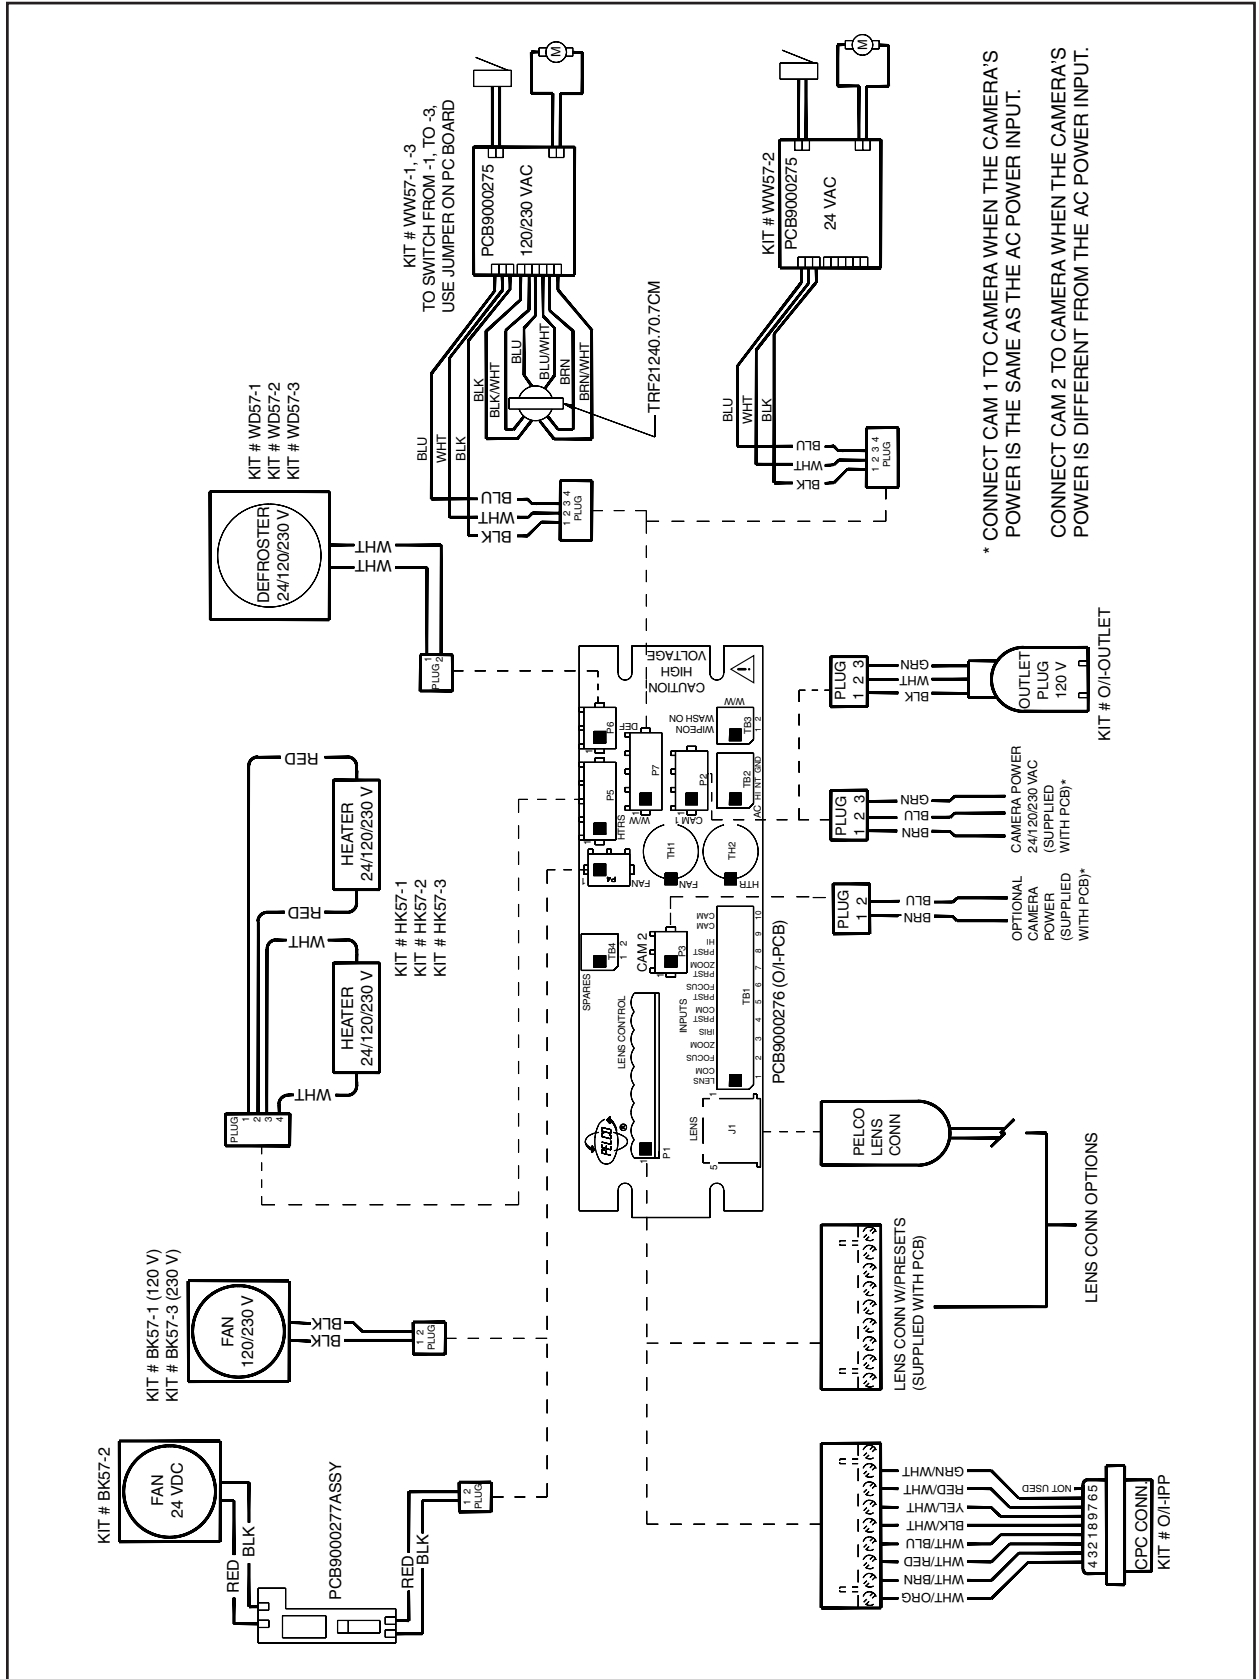

Figure 2. EH5700 Series Input Wiring Diagram
EH5723-1, -2, -3 Models, and EH5729 -1, -2, -3 Models Only – Refer to Figure 2 and wire the motorized zoom lens control as follows:
11. **EH5723-1, -2, -3 Models, and EH5729 -1, -2, -3 Models Only** – Refer to Figure 2 and connect the camera's power input to the circuit board.